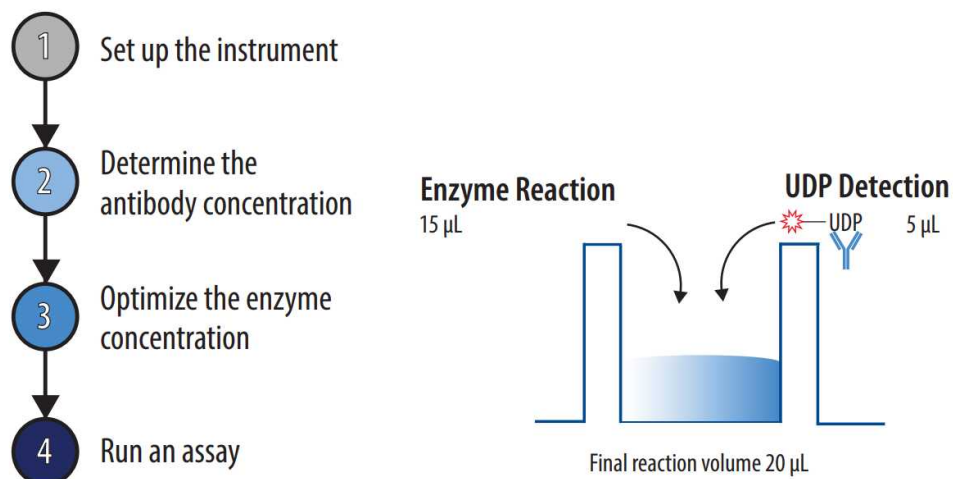

Figure 2. An outline of the procedure. The assay consists of 4 main steps with a mix-and-read format.
- The Transcreener® UDP² FP Assay protocol consists of 4 steps (**Figure 2**). The protocol was developed for a 384-well format, using a 15 µL enzyme reaction and 20 µL complete